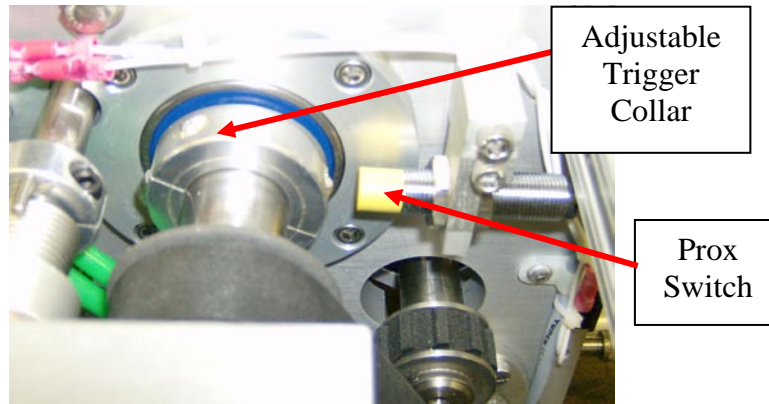

Figure 30-Homing Collar & Proximity Switch
2. Next, loosen the screws on the collar holding the “HOME” proximity flat head trigger screw (Located in the gearbox, on the plate cylinder shaft-See Figure 30). When this collar turns, each revolution brings this screw within the sensing field of the proximity switch. This flat head trigger screw should never touch the sensor, but when rotated, should pass within 3/16” of the sensor.
3. Rotate the collar counter-clockwise (when viewed as in Figure 30) until the leading edge of the trigger screw just enters the edge plane of the prox switch. Now tighten the screws on the collar. The printer is now in its “HOME” or Start position.